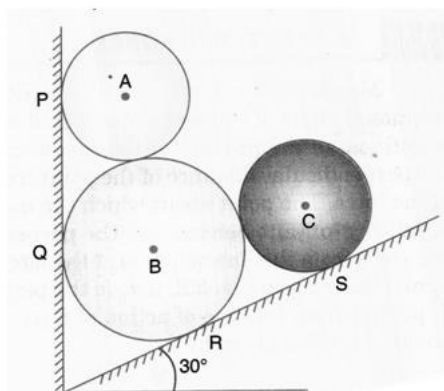

Fig.1
- 9 Three spheres A, B and C weighing 300N, 600N and 300N respectively and having diameters 800mm, 1200mm and 800mm respectively are placed in a trench as shown in Fig.1. Determine the reactions developed at contact points P, Q, R and S. The angle of inclination is 30° . (10)